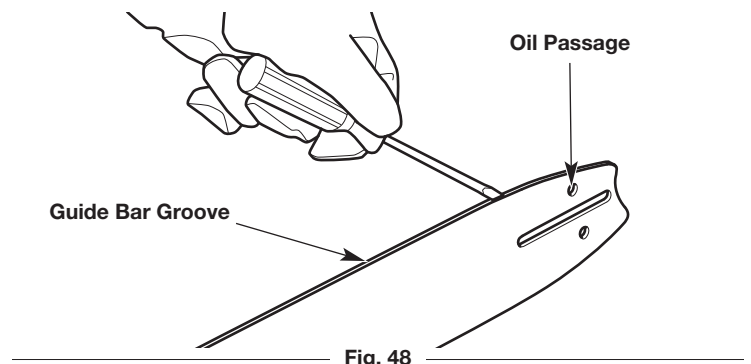
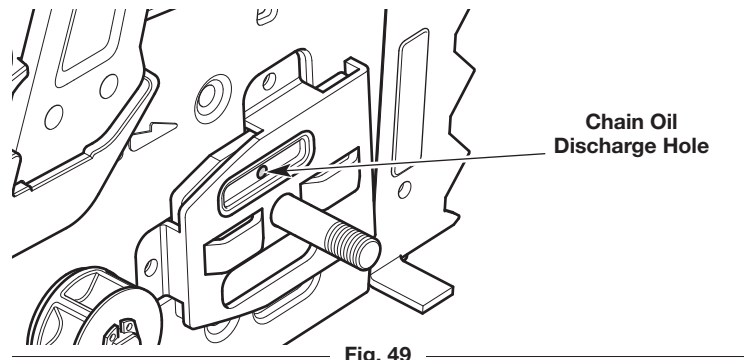

Fig. 48
Fig. 49
2. Clean the guide bar groove and oil passages whenever the saw chain is removed, when the unit has been used heavily or when the saw chain appears dirty. Use a screwdriver, putty knife, wire brush or similar instrument to remove debris from the guide bar groove (Fig. 48). Use a small, soft wire to remove any debris from the chain oil discharge hole (Fig. 49).